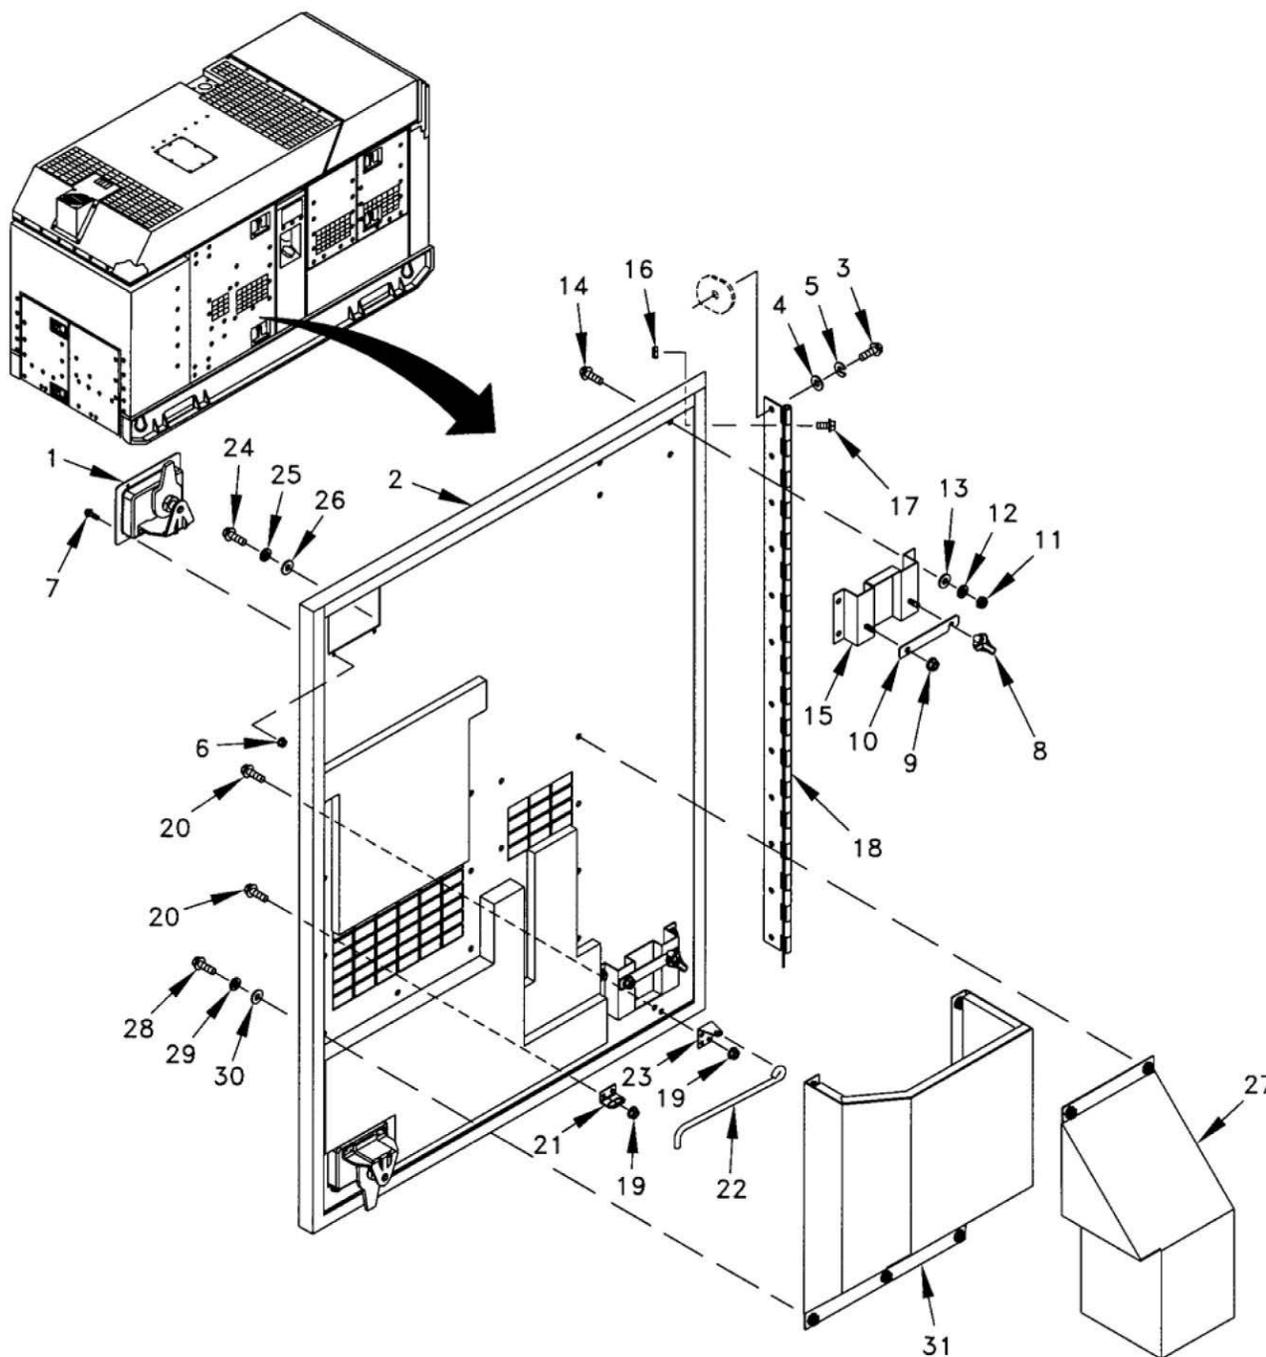

Figure 1. Left Front Door Assembly (Latch).
1. Turn two latches (Figure 1, Item 1) and open left front door assembly (latch) (Figure 1, Item 2).
2. Remove twelve screws (Figure 1, Item 3), washers (Figure 1, Item 4), lock washers (Figure 1, Item 5), and left front door assembly (latch) and hinge (Figure 1, Item 2).
1. Remove eight nuts (Figure 1, Item 6), screws (Figure 1, Item 7), and two latches (Figure 1, Item 1).
2. Remove two wing nuts (Figure 1, Item 8) two locknuts (Figure 1, Item 9) and two grounding rod retainer latches (Figure 1, Item 10).
3. Remove eight locknuts (Figure 1, Item 11), lock washers (Figure 1, Item 12), washers (Figure 1, Item 13), screws (Figure 1, Item 14), and two grounding rod retainer brackets (Figure 1, Item 15).
4. Remove twelve locknuts (Figure 1, Item 16), screws (Figure 1, Item 17), and hinge (Figure 1, Item 18).
5. Remove four nuts (Figure 1, Item 19), screws (Figure 1, Item 20), holding rod bracket (Figure 1, Item 21), door holding rod (Figure 1, Item 22), and door holding bracket (Figure 1, Item 23).
6. Remove eight screws (Figure 1, Item 24), lock washers (Figure 1, Item 25), washers (Figure 1, Item 26), and upper duct (Figure 1, Item 27).
7. Remove nine screws (Figure 1, Item 28), lock washers (Figure 1, Item 29), washers (Figure 1, Item 30), and lower duct (Figure 1, Item 31).
3. Install lower duct (Figure 1, Item 31), and secure with nine lock washers (Figure 1, Item 29), washers (Figure 1, Item 30), and screws (Figure 1, Item 28).
4. Install upper duct (Figure 1, Item 27) and secure with eight washers (Figure 1, Item 26), lock washers (Figure 1, Item 25), and screws (Figure 1, Item 24).